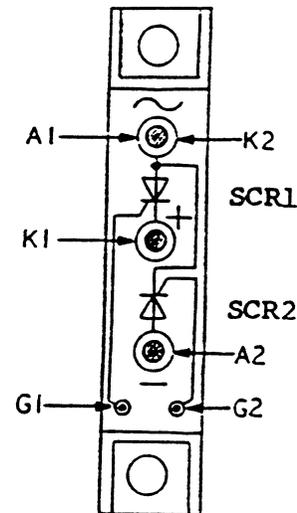

Figure 5-2. SCR Module Test Points
1. Using an ohmmeter in the X10K range, place the positive probe on SCR1 anode (A1), and the negative probe on SCR1 cathode (K1), shown in Figure 5-2. Compare your reading with section 1 of Table 5-1. After checking SCR1, check SCR2 by placing the positive probe on SCR2 anode (A2) and the negative probe on SCR2 cathode (K2), shown in Figure 5-2. Compare your reading with section 1 of Table 5-1.
3. Set the ohmmeter to the X1 range. Check gate resistance of SCR1 by placing the positive probe on gate terminal G1 of the SCR module, shown in Figure 5-2, and the negative probe on SCR1 cathode (K1). Compare your reading with section 2 of Table 5-1. After checking SCR1, check SCR2 by placing the positive probe on gate terminal G2 of the SCR module, and the negative probe on SCR2 cathode (K2). Compare your reading with section 2 of Table 5-1.